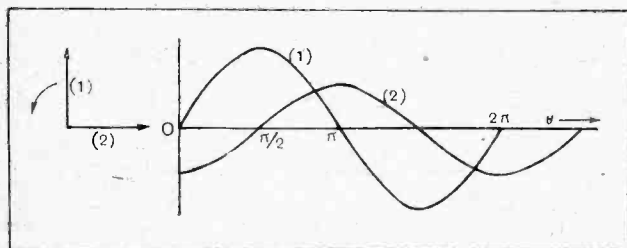

Fig. 7.—Showing two sine waves 90° out of phase. The vectors representing them are mutually at right angles.
It is only under special circumstances that we find sine waves exactly in phase in A.C. circuits. In the great majority of cases the two or more waves under consideration are out of step or *out of phase*. There is said to be a phase difference between them. In Fig. 7 are shown two sine waves which are out of step by exactly one quarter of a cycle—one of them passes through its zero value just as the other reaches its maximum value. It will be clear that the vector representing the one must be horizontal at the same instant as the vector representing the other is vertical, and so for two waves out of step by a quarter of a cycle, the respective vectors representing them are mutually at right angles. For this reason the two waves are said to be out of phase by an angle of 90°. Note that curve (1) reaches its maximum value before curve (2), and so curve (2)